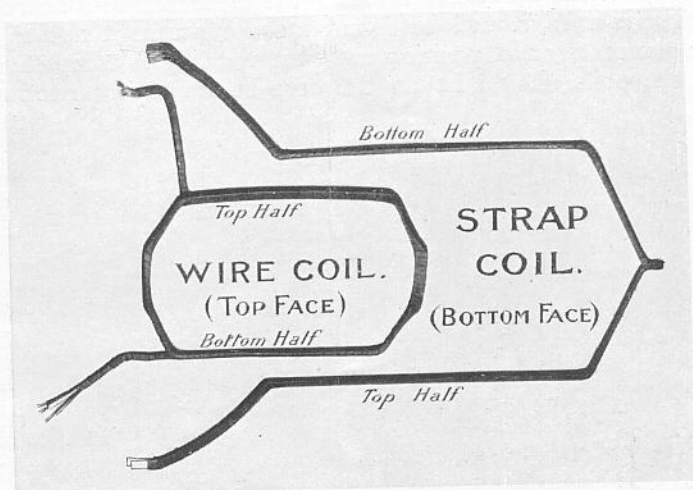

Fig. 3.—Wire and Strap Coils.
**The Coils.**—The coils are composed of separately-insulated sections which are then insulated together. Such are shown in Fig. 3. The commutator connecting leads are in most cases brought out at the bottom face of the coil.
from one another in connecting. The coils are fully insulated (as shown in Fig. 3) when sent from the factory, and require no additional insulation before being placed on the core, with the exception that the core slots should be lined as described on page 7. The commutator leads are cut uniformly to the required length, and are tinned back 2" in order to allow for a slight variation in length while assembling. Where the leads are insulated together, no extra insulation is required between them and neighbouring coils when assembling. When the leads are not insulated together, two thicknesses of oiled duck are inserted between them and the coils. Those coils which have their leads brought out on the bottom face have a slight
The leads of all coils consist of extensions of the copper wire or strap forming the coil, there being no joints. The wire coils differ in form from the strap coils (Fig. 3), and in the case of the latter, it will be seen that the leads are formed to the exact shape required for connecting them to the commutator, so that bending is avoided. The leads of the wire coils are easily bent.
are marked in Fig. 3, and they are so called according as they are to be laid at the top or the bottom of the armature slot; each slot—it being remembered—carrying the halves of two separate coils, one above the other.